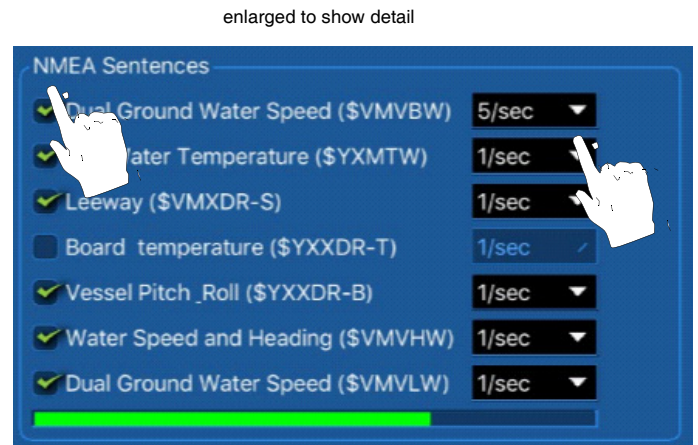

Figure 19. Enabling/disabling NMEA sentences and changing the refresh rate (Speed & Temperature sensors only)
2. Touch **Advanced** (Figure 19).